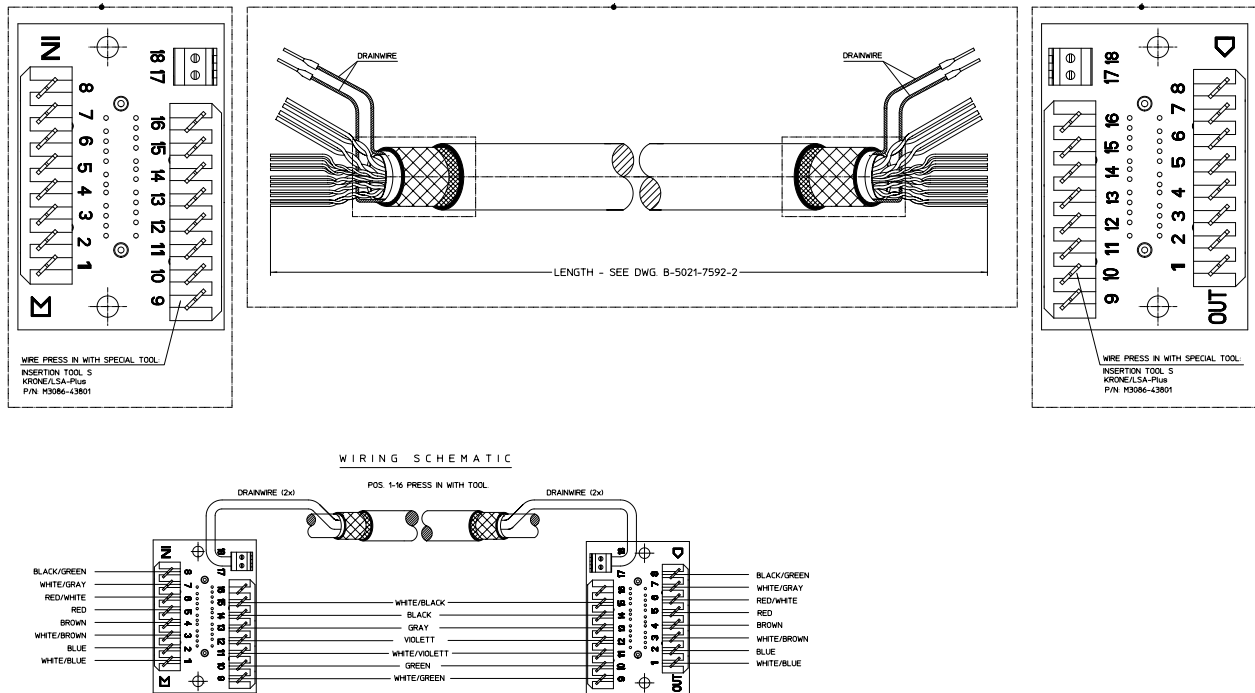

Figure 23 Connections for BIS Module
- 3 Use the Insertion Tool (M3086-43801) to position each wire on the PCB according the wiring schematic in Figure 23, where each color corresponds to a number.
- 4 Use a small screwdriver to connect the two drain wires to the PCB, see the wiring schematic in Figure 23.